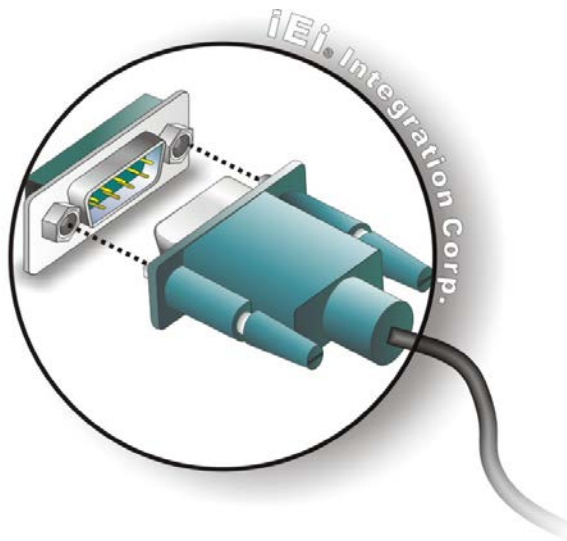

Figure 3-19: Serial Device Connector
Step 2: Insert the serial connector. Insert the DB-9 connector of a serial device into the DB-9 connector on the external peripheral interface. See Figure 3-19.